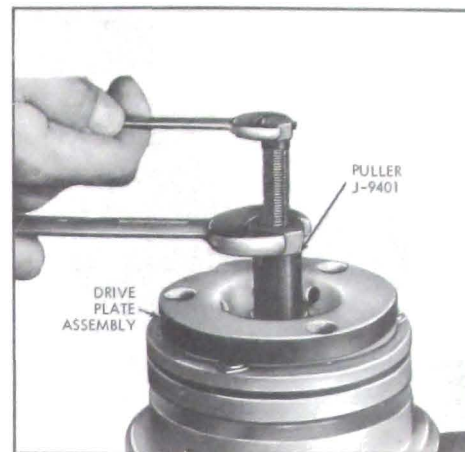

Figure 11-42—Removing Drive Plate Assembly
2. Screw threaded Hub Puller J-9401 into the drive plate hub. Hold body of tool with a wrench and tighten the center screw to remove drive plate assembly. See Figure 11-42.